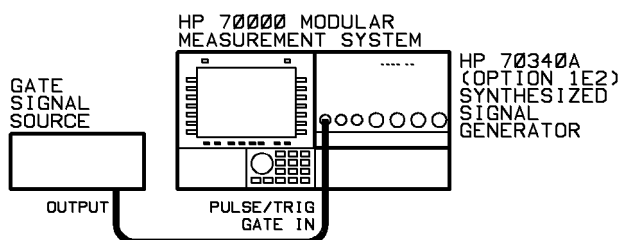

Figure 3-6. External Pulse Modulation Equipment Setup
1. **Connect the equipment as shown in Figure 3-6.**